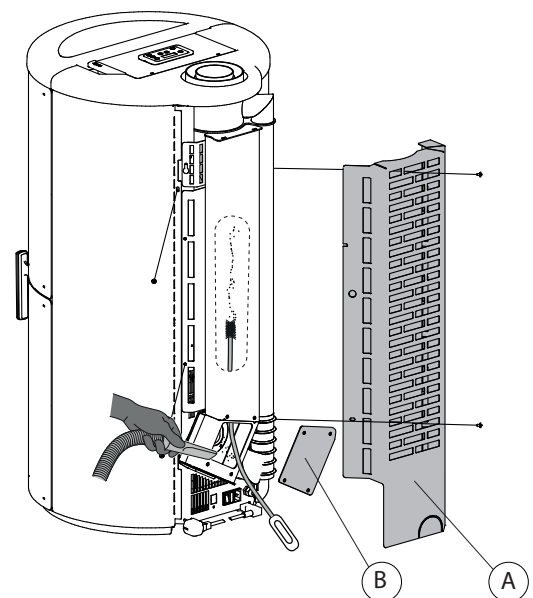

Fig. 6.1.3
6.1.4 CLEANING THE FUME DISCHARGE DUCT OF THE STOVE (Fig. 6.1.3)